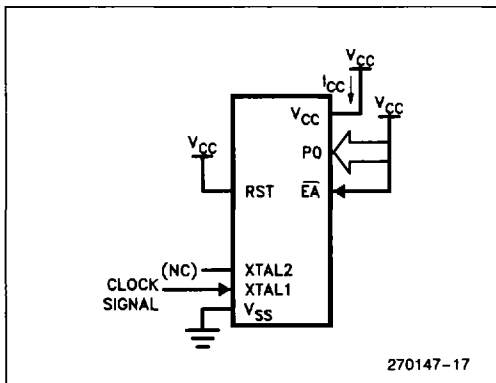

Figure 6.  $I_{CC}$  Test Condition, Active Mode. All other pins are disconnected.
- See Figures 6 through 9 for  $I_{CC}$  test conditions. Minimum  $V_{CC}$  for Power Down is 2V.